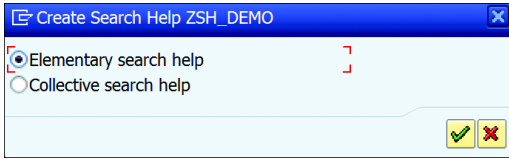

Figure 10.68 Create Search Help Window
2. In the dialog window that appears, select **ELEMENTARY SEARCH HELP** and click the green checkmark (see Figure 10.68).
2. In the create search help window (refer back to Figure 10.68), select COLLECTIVE SEARCH HELP and click the green checkmark.